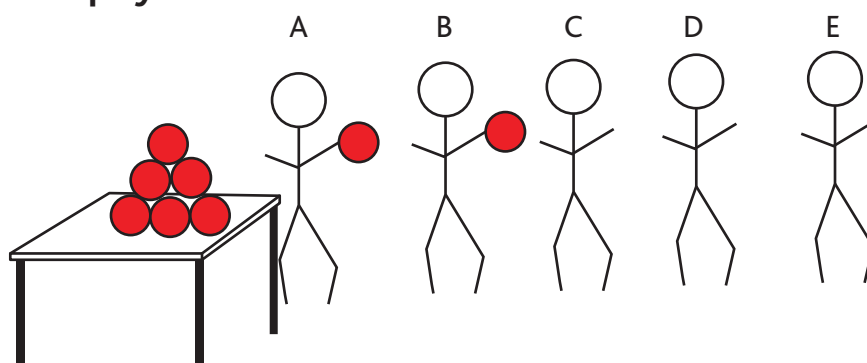
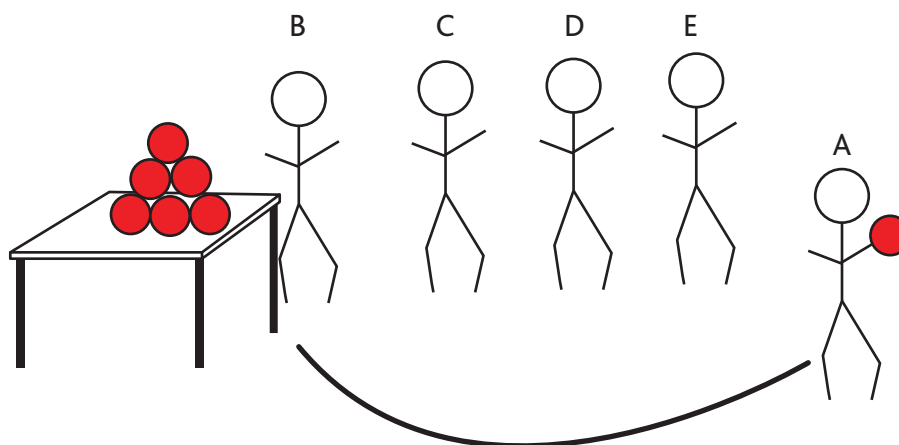

Figure 4
Figure 5
- If it is appropriate, challenge the students to carry out the role-plays demonstrated in Figure 4 and Figure 5. You will need between five and ten red balls to carry them out.